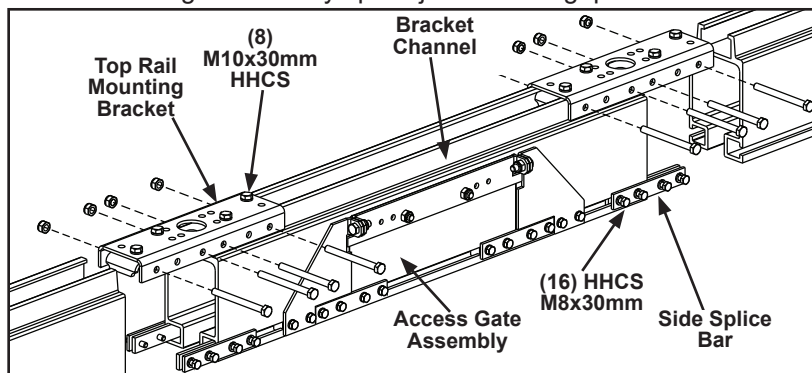
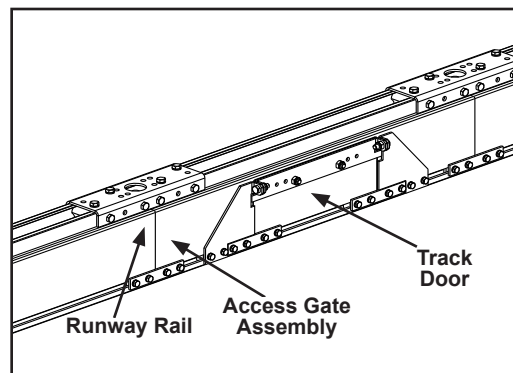

Figure 3-126
Figure 3-127
- Step 2. Hoist access gate assembly into position between runway rails. Position rail and access gate together. See Figure 3-126 and Figure 3-127.
- Step 8. Tighten eight (8) M10 x 30 mm HHCS on top rail mounting bracket to secure both rails to access gate. Tighten bolts until lock washer is flat. Do not over tighten.
- Step 9. Tighten sixteen (16) M8 x 30 mm HHCS on side splice bars. **Tighten until bolts are snug + ¼ turn.** Do not over tighten. Verify splice joint has no gaps.